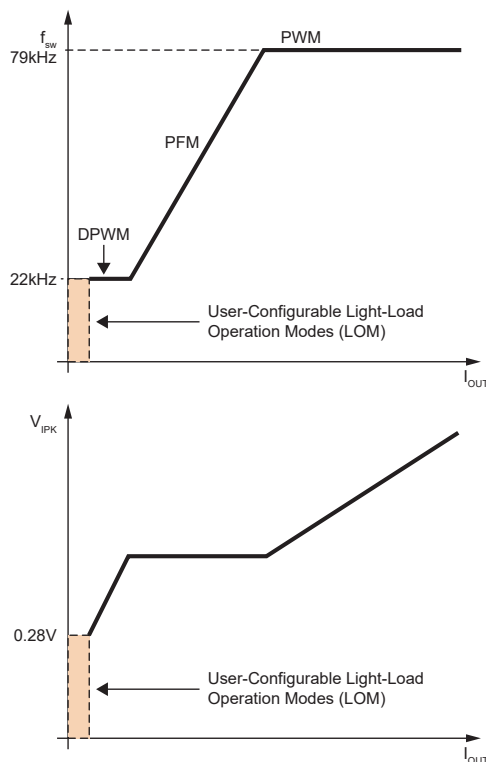

Figure 13 : Multi-Mode PWM/PFM in RRW2111x at Mid-High Loads
The RRW2111x uses a proprietary adaptive multi-mode PWM/PFM control to dramatically improve the light-load efficiency and the overall average efficiency. The operating mode changes as the load decreases in order to maximize efficiency. Figure 13 shows how the switching frequency and the V_{IPK} vary with the load. During constant voltage (CV) mode operation under heavy load, the RRW2111x operates in pulse-width-modulation (PWM) mode. In PWM mode, the switching frequency remains approximately constant. As the output load decreases, the on-time (t_{ON}) decreases, and the controller adaptively transitions to a pulse-frequency-modulation (PFM) mode. In PFM mode, the GaN FET is turned on for a set duration under a given instantly-rectified AC input voltage, but its off-time is modulated by the load current, decreasing the switching frequency.